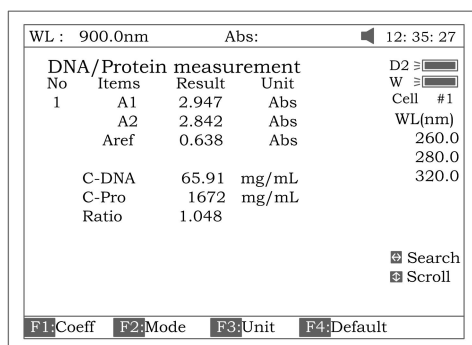

Fig 65
5. Pull the sample cuvette into Light Path, press **【START】** to test the sample. The test result will be displayed on the screen (Fig 65).